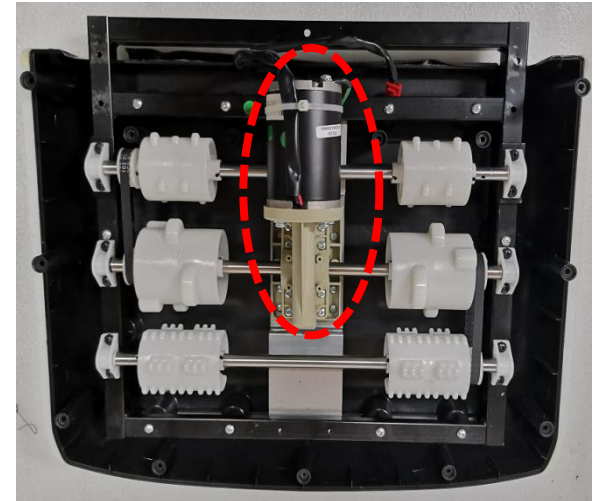

Figure 3
- D. If all above is normal. If the wiring harness is all right, consider replacing the sole roller motor (Figure 3);